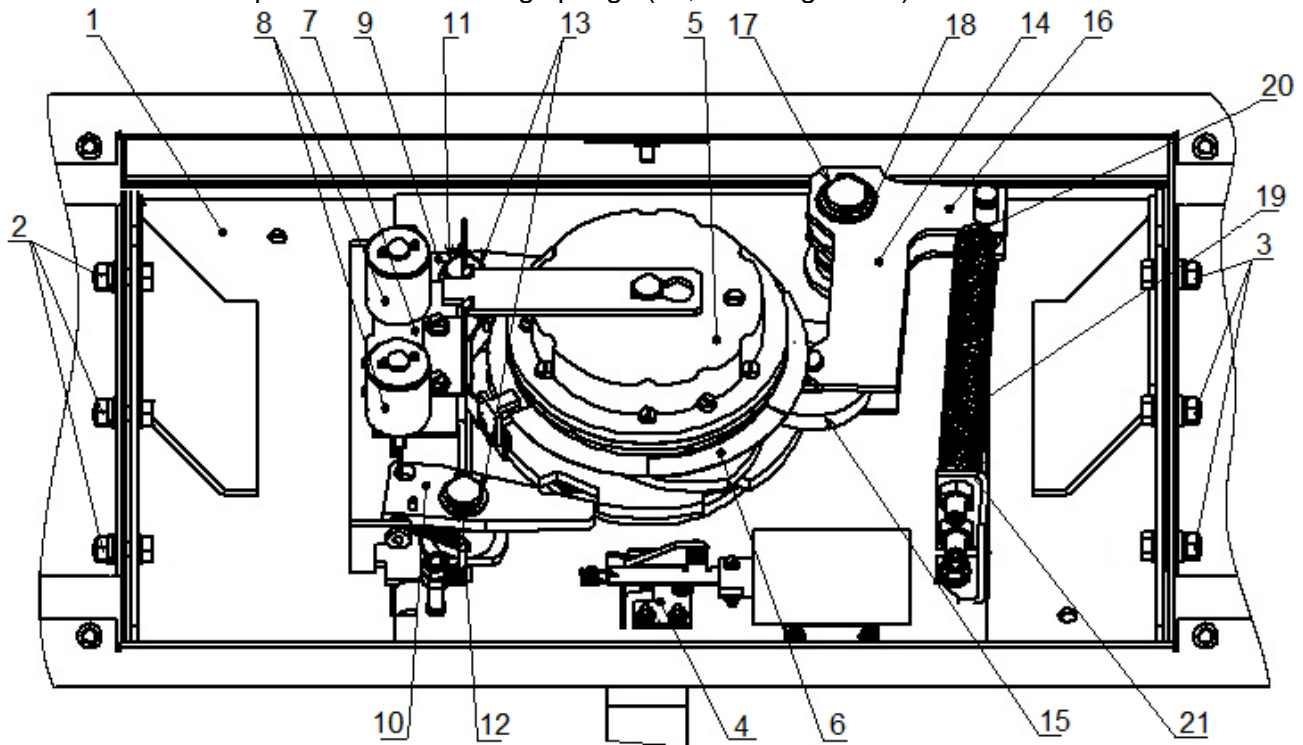

Figure 22. Rotary group of the turnstile's barrier arms
4. Remove the turnstile's main cover (2) from the turnstile housing as described in Section 6 and place it on a flat steady surface.
6. Inspect the rotary group of the barrier arms: its resetting mechanism (a pusher, springs, and a roller), optical rotation sensors for the barrier arms, and damper (see Figure 22).
7. Remove any possible dirt from a rotation sensor disk (6 in Figure 22), located in the gap of the optical rotation sensors for the barrier arms, with an alcohol-gasoline blend applied with a clean cloth. Avoid ingress of dirt into the working gaps of both optical rotation sensors.
8. Lubricate the following parts of the rotary group (lubrication points are marked in Figure 22):
- rotation axes of the pusher lever (17 in Figure 22), roller (15 in Figure 22), and stoppers (11, 12 in Figure 22) with the **Chain and Rope Lube Spray – WEICON** lubricant;
- parts of the emergency passage unblocking mechanism (4 in Figure 22) with the **Chain and Rope Lube Spray – WEICON** lubricant.
- attachment points of the resetting springs (20, 21 in Figure 22) with machine oil.